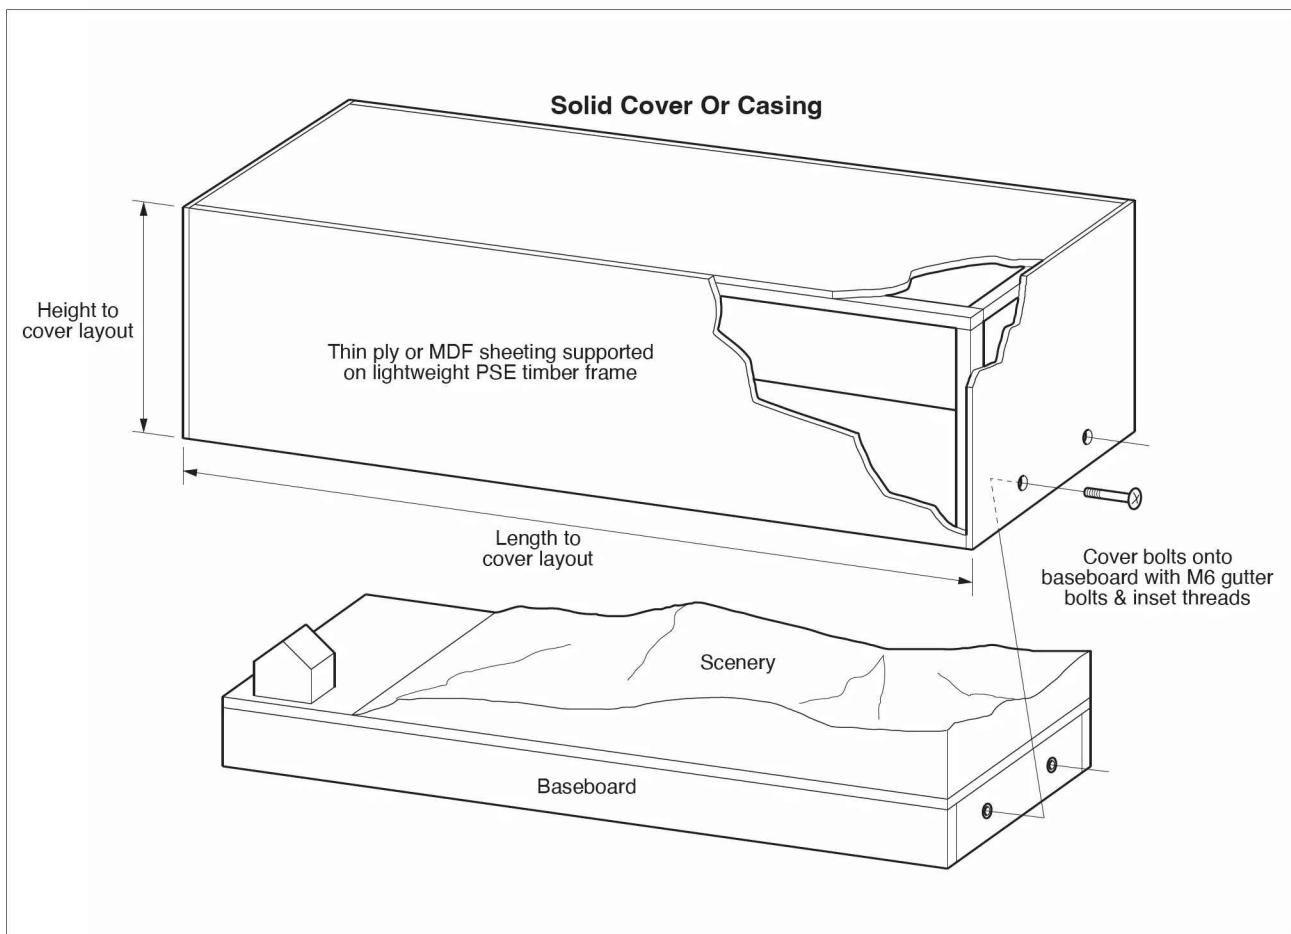

Figure 6: Casing as a protection for a portable layout.
**Casing** is nothing more than taking each board and building a simple light fabrication of perhaps 3mm ply or MDF with some lightweight timber internal bracing to form a total box which fits over the whole board and offers that baseboard total cover. (See Figure 6.)